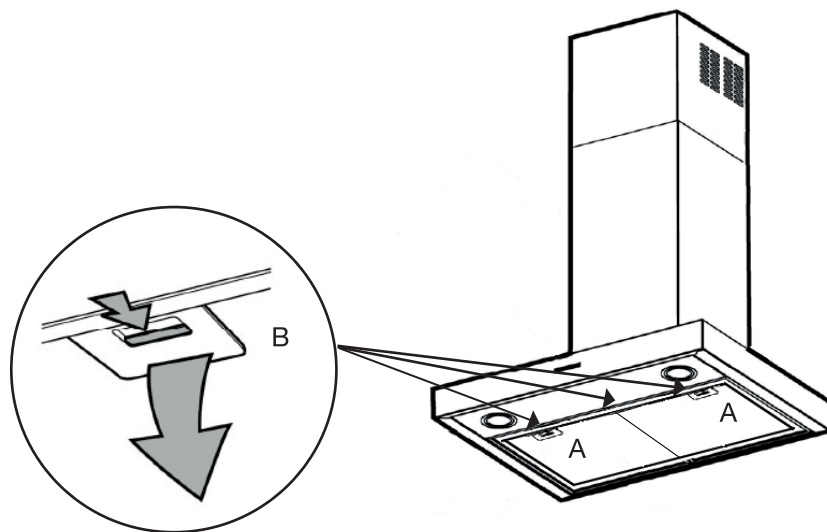

Figure 8
1. Remove the grease filters as shown in the previous section (Fig. 8).